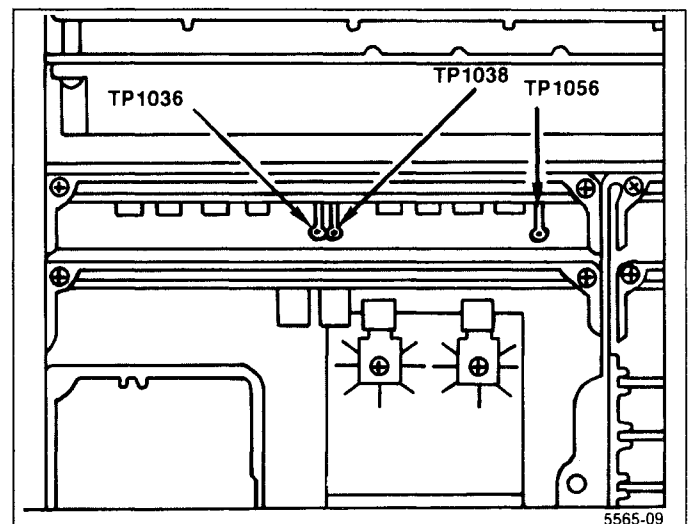

Figure 5-5. Test points on the CRT Readout board.
i. Disconnect the voltmeter, set TIME/DIV to AUTO, change the test oscilloscope to Ext Trigger, and apply the signal at TP1038 on the Crt Readout board (Figure 5-5) to the test oscilloscope Ext Trigger input. Set the test oscilloscope Time/Div to 2μ .